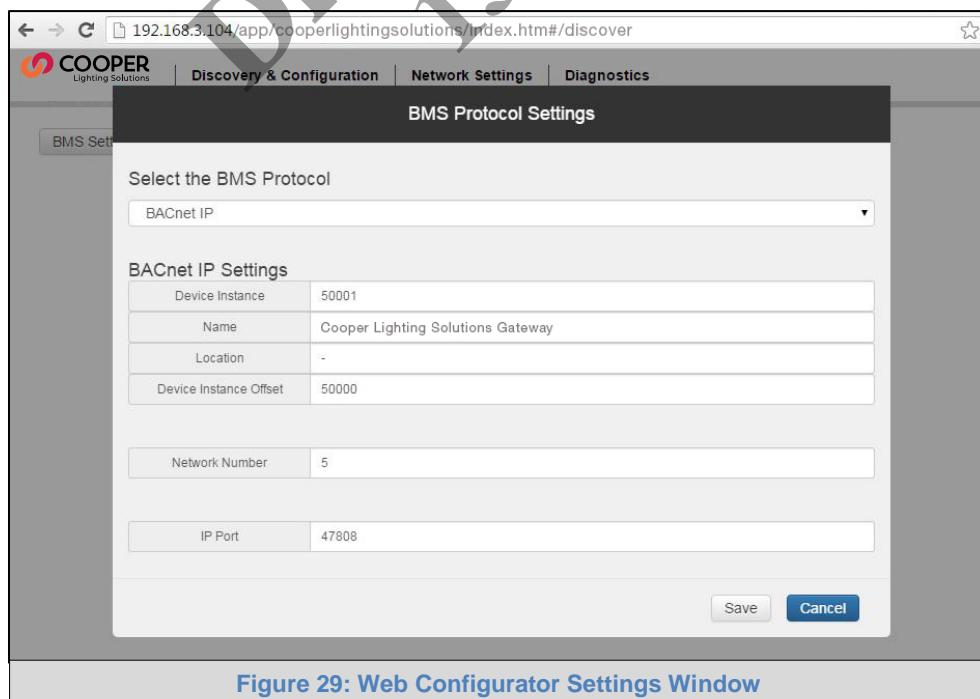

Figure 29: Web Configurator Settings Window
- The Web Configurator will be displayed, click “BMS Settings”. (Figure 29)